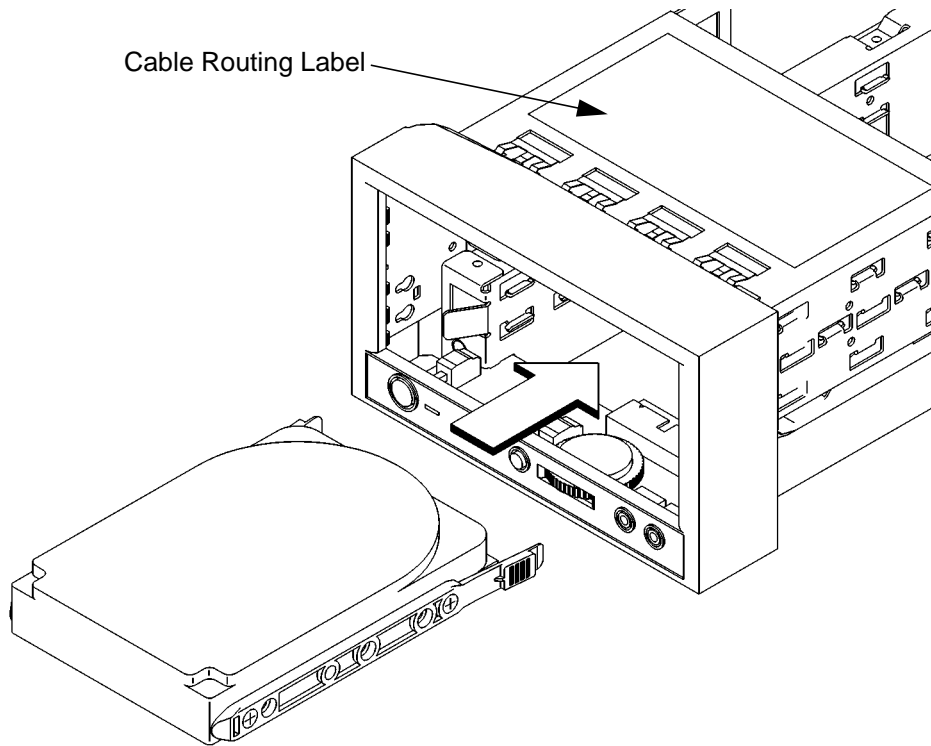

Figure 30 **Installing a Hard Disk Drive in Position 1**
- 2 Reach into the storage bay and locate the power and data cables for the disk drive. Refer to the cable routing label on the storage tray. See Figure 30.
- 4 From the front of the storage tray, line up the disk slides on the hard disk drive with the position 1 slots in the storage tray chassis and slide it into place, as shown in Figure 30.